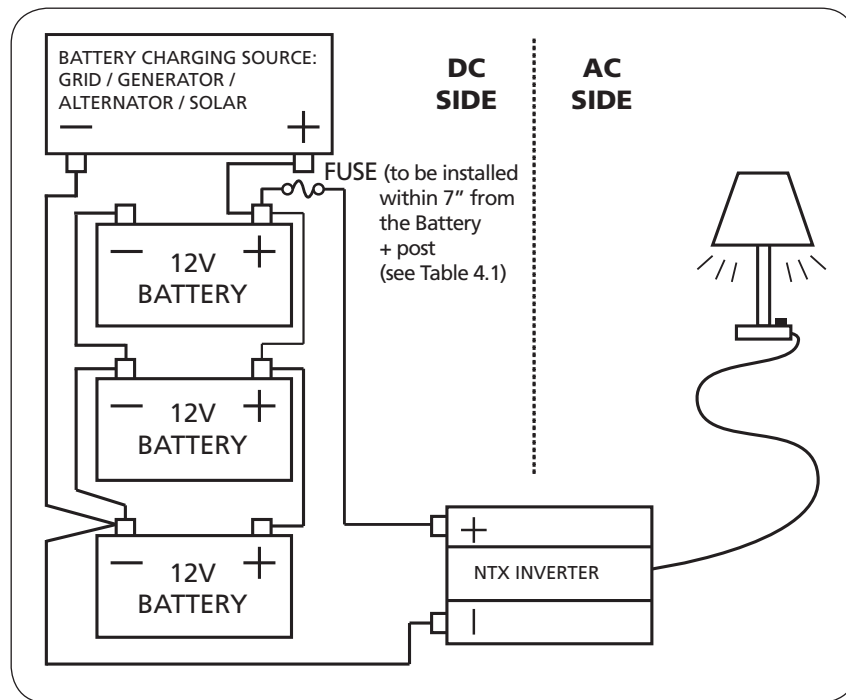

Fig 4.2 Connecting to a 12V Battery Source
The inverter will provide you nominal 115 VAC when powered by a 12 VDC source such as is found in a vehicle or multiple battery configurations as shown in Fig 4.2. **This manual does not describe all of the possible types of battery configurations, battery charging configurations and battery isolation configurations.**
For normal operation of the inverter, the DC power source must provide $>11.0 \pm 0.3V$ and $< 15.3 \pm 0.3V$ and the required current. This DC power source must be a well-regulated DC power supply or alternator and deep cycle battery system typically found in vehicles. The DC power source may also be two or more 12 volt batteries connected in parallel. On larger applications, the power source may be several batteries connected in parallel as shown in Fig 4.2.
It is mandatory to install appropriate size of external DC Fuse as close to the Battery Positive Post as possible, preferably within 7 inches to protect against fire hazard due to short circuit along the battery cable run (See Fig 4.2). A battery is an unlimited current source that can supply thousands of Amperes of current under short circuit conditions. If a short circuit occurs in the cable run at a point between the battery and the inverter, the section of the cable from the battery to the point of short circuit will be fed with thousands of Amperes of current, the section of the cable will overheat / melt and is likely to cause fire. It is, therefore, recommended that the fuse / fuse assembly should have Ampere Interrupting Capacity (AIC) of at least 10,000 A. Class-T type of fuses are recommended as these fuse provide fast acting, current limited protection.
Il est obligatoire d'installer la taille appropriée des Fusible CC externe comme à proximité de la borne positive de la batterie que possible, de préférence dans un délai de 7 pouces pour protéger contre le risque d'incendie dû à un court-circuit sur le câble de batterie exécuter (voir Fig 4.2). Une batterie est une source de courant qui peut illimité offre des milliers d'ampères de courant en cas de court-circuit. Si un court-circuit survient dans le parcours de
5. Install a fuse holder close to the Positive (+) terminal of the battery (or other DC source), preferably within 7" of the terminal (see Fig 4.2).